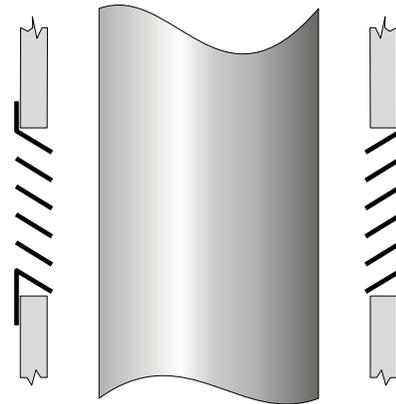
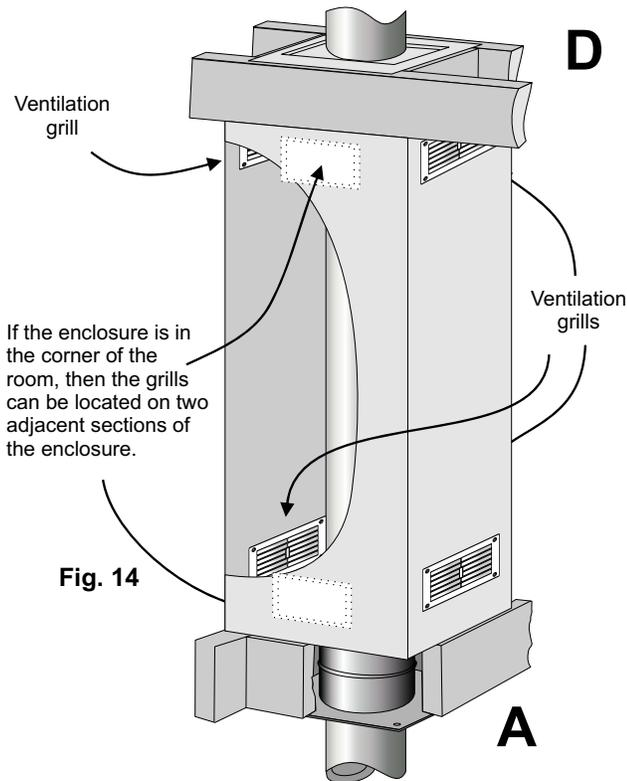

Fig. 13
Fig. 14
Figures 5 to 10 illustrate the basic enclosure arrangements and figures 14 to 26 depict the variations in application.
**13** Firestop Spacers are non load bearing and provide lateral bracing. They may be provided in two alternative formats, either having tags which are bent into position to provide the minimum clearance or with a dished profile for the same purpose. They can be used where the chimney passes through a non-combustible floor or where the chimney below is not enclosed. If an enclosure is applied to within 50mm of the outside skin, four grills must be used, two each side top and bottom as shown in Figure 14.
**15** These figures are the first of six which illustrate how the Ceiling Penetration Components, enclosures and grills should be used. In these two illustrations, Firestop Spacers and a Ceiling Support have been shown at the top at the bottom of the floor penetration enclosure respectively. The remaining figures 14 to 26 provide details of alternative arrangements which can be applied using the other ceiling penetration components. Figure 13 applies to any application where grills are to be used in the enclosure walls, whether at the top, bottom or both.
**16** These instructions identify the need to ensure that the chimney is allowed to be cooled where it passes through parts of the building and is enclosed. Figure 14 illustrates the basic installation requirements dictated by the assessment procedures of BS EN 1856 and BS EN 1859, to which the STC Chimney System has been subjected and certificated. **ALL** factory made System Chimneys will require similar assessment procedures and use of dictated floor penetration components, without the use of which the chimney would be illegally applied.